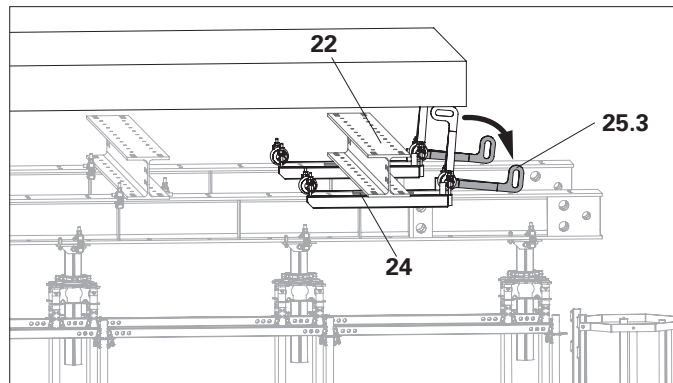

Fig. A7.09
2. If installed, remove centring rails **(24)**. (Fig. A7.09)